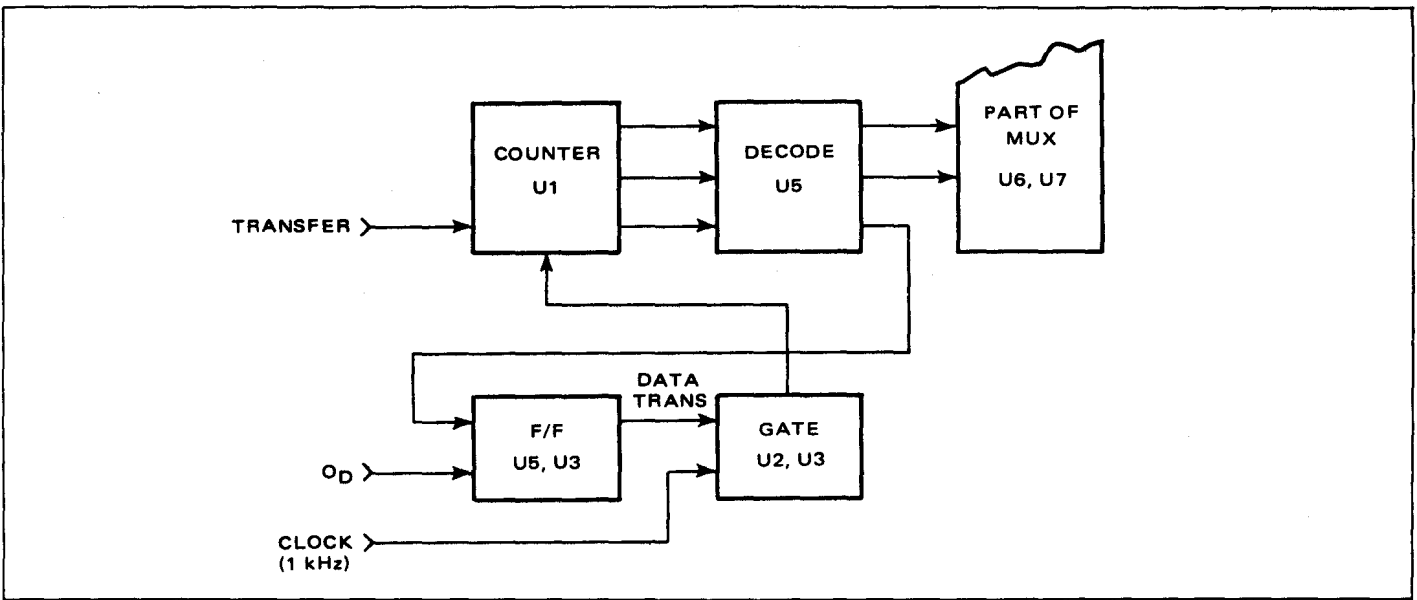
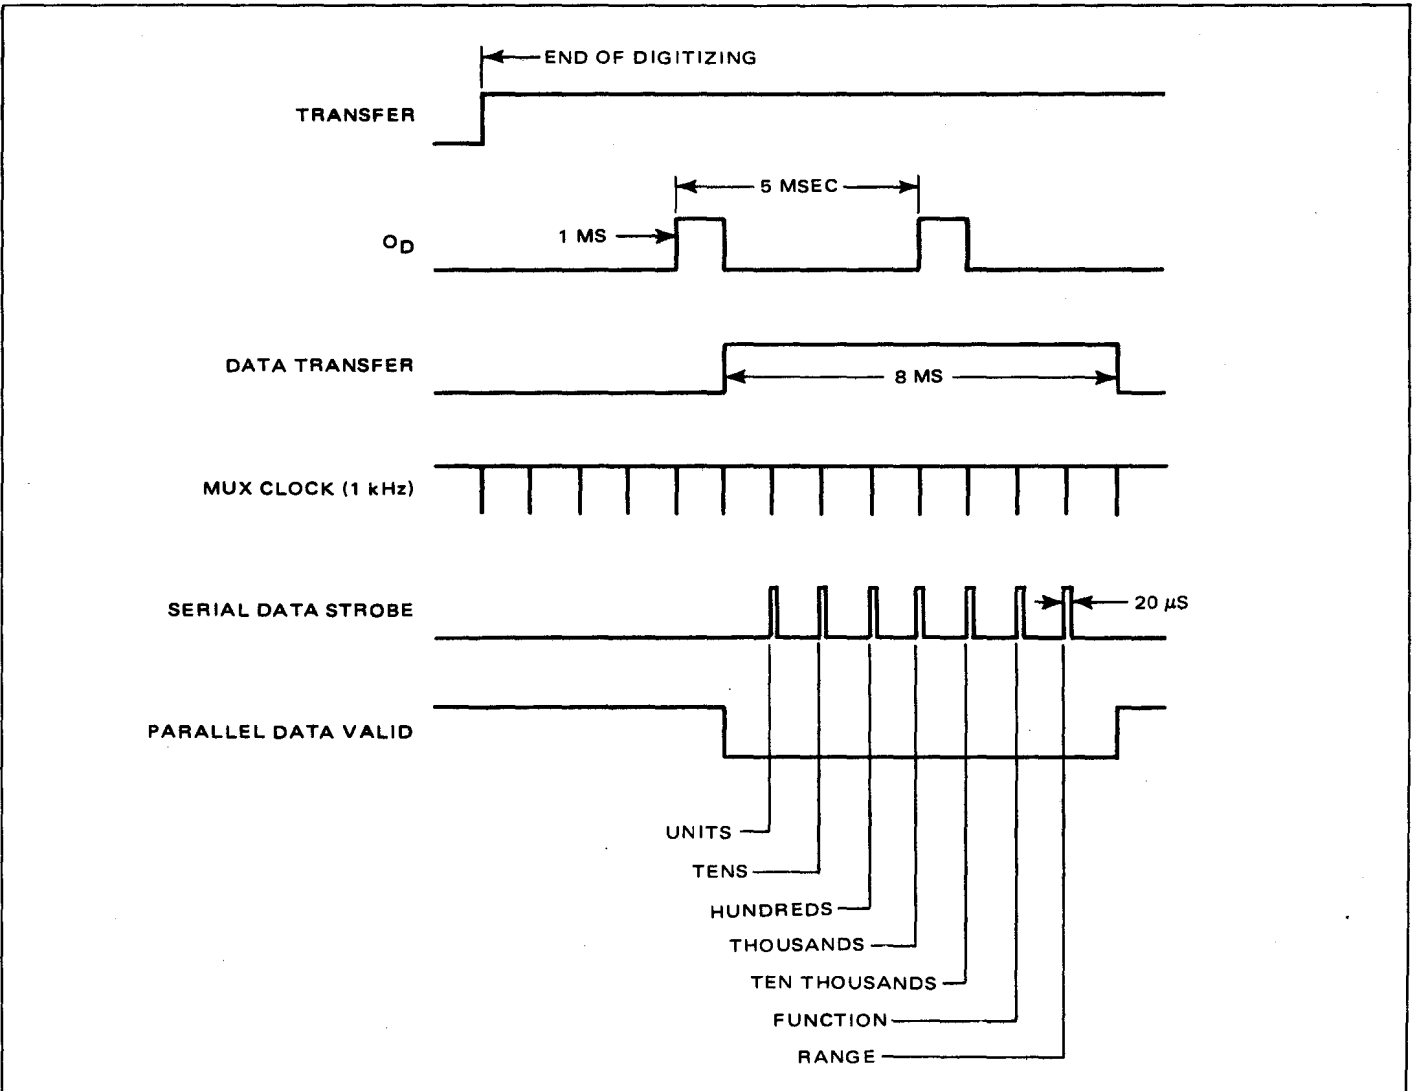

Figure 3.2 - Control Logic
Figure 3.3 - Timing Diagram
3.3.2.2 The Control Logic, shown simplified in figure 3.2, consists of an R/S flip-flop (U5, U3), gate circuit (U2, U3), counter (U1), and decode logic (U5). The control logic generates the operational logic for the multiplexer and the strobe signal which drives the five data optical couplers and provides timing information for the grounded side. The circuitry operates by following a predetermined series of steps shown in figure 3.3. The operation starts when the TRANSFER line goes true, permitting counter U1 to count as soon as pulses are received from the gate circuit. When O_D , a strobe signal from the counter/multiplexer on the Display board, is received the negative going edge of the signal sets the flip-flop output true (Data Transfer). The data transfer signal enables the gate, allowing the 1 kHz clock signal (also from the counter/multiplexer on Display board) to advance counter U1. The output of the counter is decoded by U5.